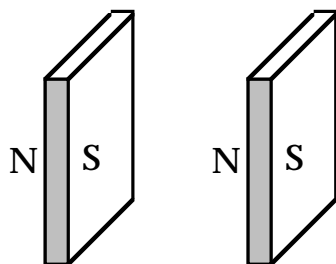
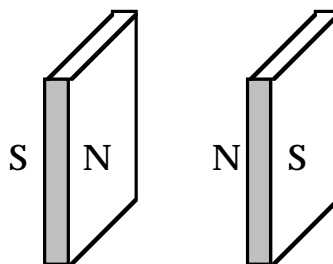

Figure 7.9b
Figure 7.9c
To investigate the field pattern in the space **between** the pair of magnets in a Genecon, set up the situation showing Figure 7.9b. Place the magnets about two compass diameters apart. Tape may be needed to hold the magnets in place.
2. Sketch the magnetic vector patterns for both situations on Figures 7.9b and 7.9c.
3. Speculate why the magnets inside the Genecon are configured as in Figure 7.9b – and not as in Figure 7.9c.
4. Compare what you feel when you do this with the vector patterns in Figures 7.9b and Figure 7.9c. How do these patterns help describe what you feel? Explain.